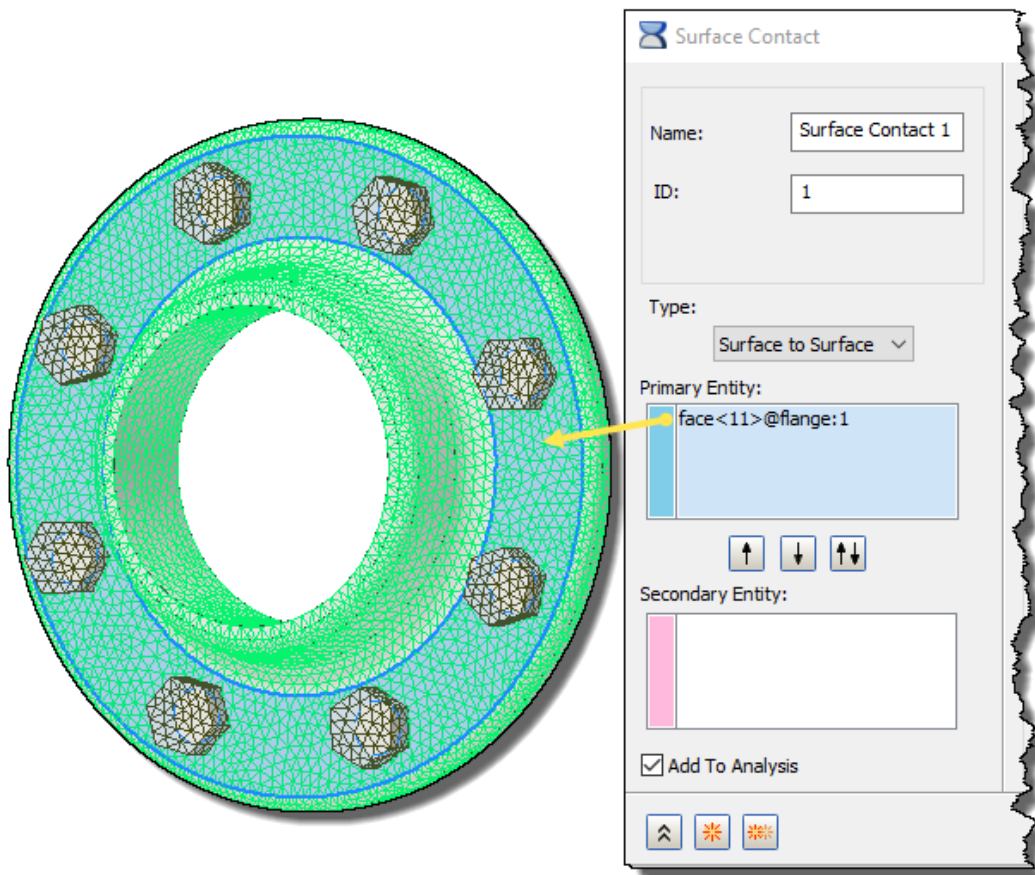

Figure 31 - Select visible face of flange.
1. Select the face on the flange for the Primary Entity. This face is easily selected because most of the face is not covered by the bolts. See Figure 31.